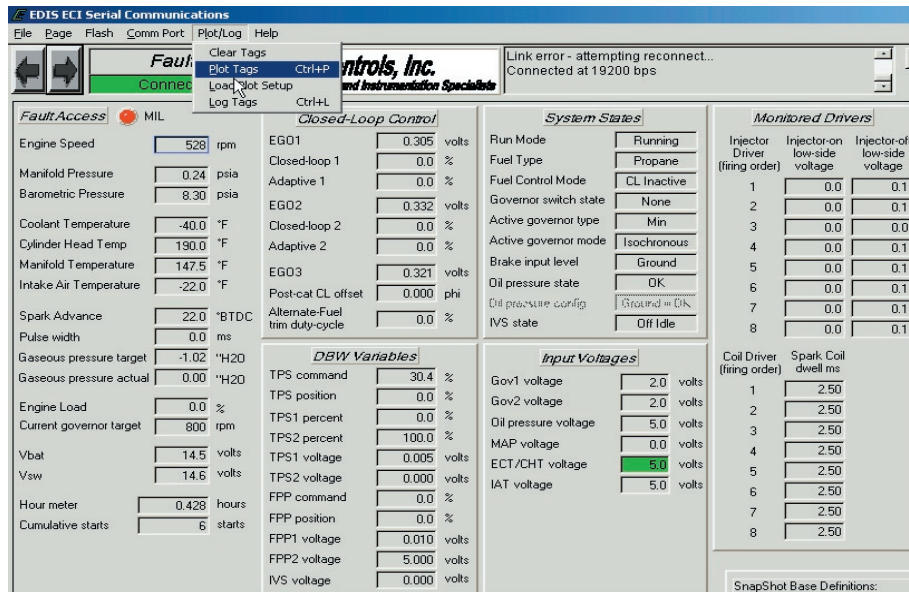
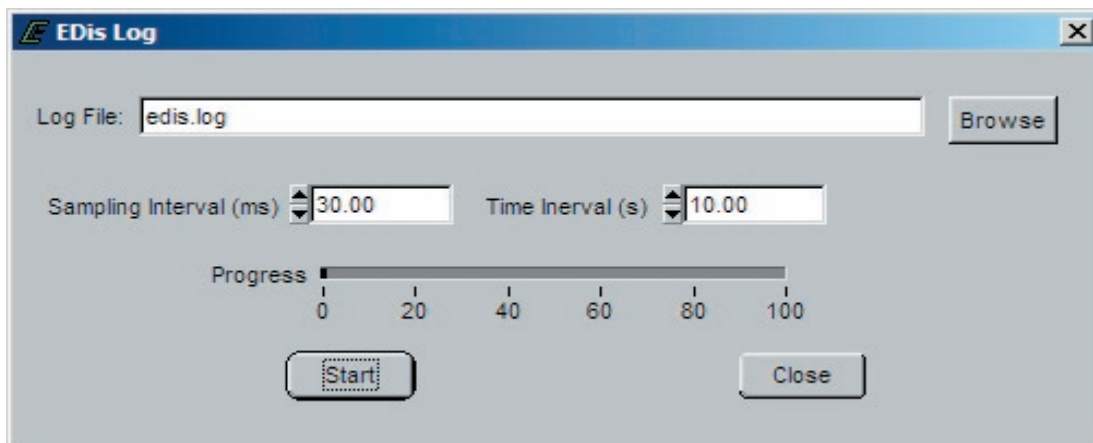

Figure 6
Figure 9: DST Log Interface
Once the variables have been tagged as highlighted by the green color fill, select the “Plot/Log” function in the top menu bar as shown below in figure 6.
Another data capture function incorporated in the software is the DST logger. This tool serves as a PC data logger for any variable available in the ECM through the interface software. Figure 9 shows the interface display for configuring the DST Log. The interface allows the user to create the file's filename, set the sample rate for acquisition, set the time interval for sampling, and display the progress of acquisition. A maximum of twenty (20) variables may be tagged for the log. The amount of data stored is only limited by available PC RAM. The resulting text file may then be viewed by any standard Windows text editor/reader program. To create a log file select the "Log Tags" in the drop down menu as shown in figure 6.